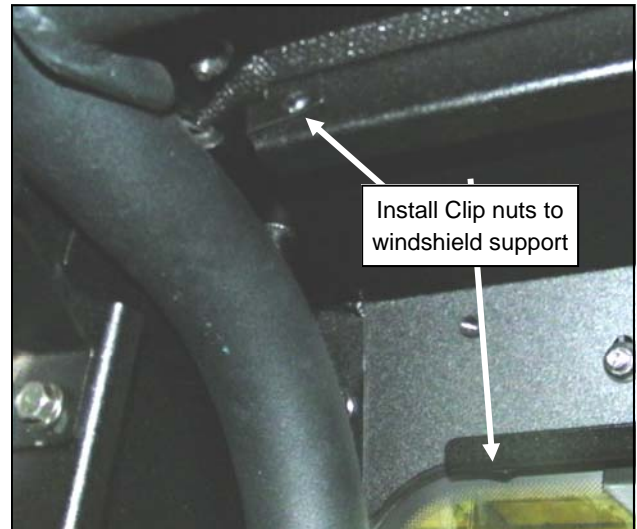

Fig. 1.7
- 1.7 Install a 1/4-20 clip nut (4 total) into the slots and holes at the corner of each flange of the windshield support, with the flat side of the nut on the outside. See figure 1.7.